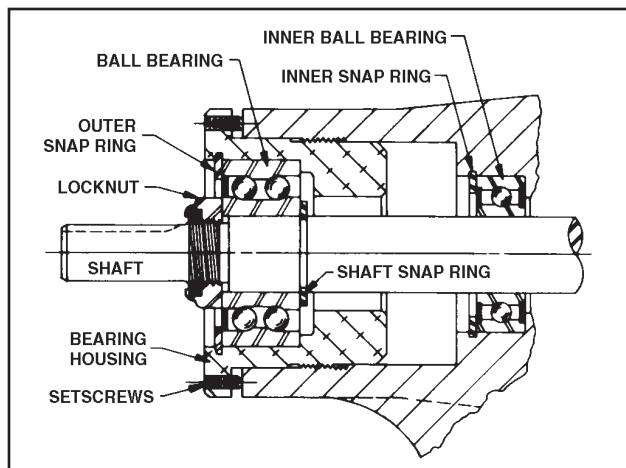
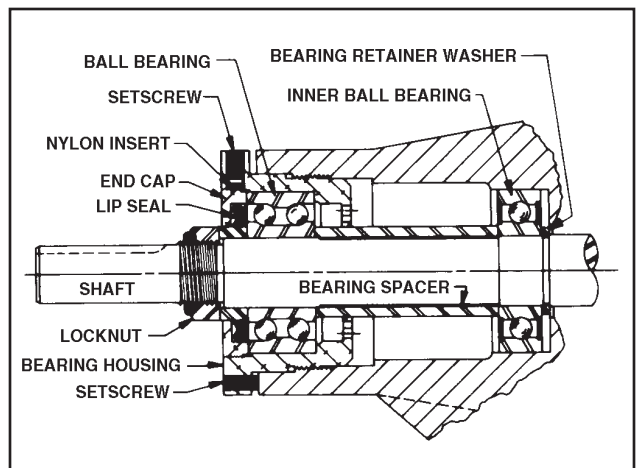

Figure 26 - Thrust-Bearing assembly (GG, HJ, HL)
Figure 27 - Thrust-Bearing assembly (AS, AK, AL)
Turn the locknut counterclockwise and remove locknut. See Figure 26 or 27.
6. Loosen two setscrews in face of bearing housing and turn thrust bearing assembly counterclockwise and remove from casing. See Figure 26 or 27.
7. **GG, HJ, HL:** Remove snap ring from shaft. See Figure 26. **AS, AK, AL:** Remove bearing spacer from shaft. See Figure 27.
10. **AS, AK, AL:** Remove bearing retainer washer. The washer may have stayed with rotor and shaft when removed or is against ball bearing. See Figure 27.
- GG, HJ, HL:** Remove outer snap ring from bearing housing and remove ball bearing. See Figure 26.
- AS, AK, AL:** Loosen two set screws in flange outside diameter. Rotate end cap and lip seal counterclockwise and remove. Remove ball bearing. See Figure 27.
12. **GG, HJ, HL:** Install shaft snap ring in groove in the shaft. See Figure 26.
AS, AK, AL: Install bearing spacer over shaft and against single row ball bearing. See Figure 27.
13. Pack lubrication chamber between inner ball bearing and double-row ball bearing in the thrust-bearing assembly approximately one-half full of multipurpose grease, NLGI #2. The thrust-bearing assembly will take the remaining space. See Figure 26 and 27.
GG, HJ, HL: Install ball bearing into bearing housing with shield side toward coupling end of shaft. See Figure 26. Install snap ring into bearing housing to retain ball bearing. This snap ring has a tapered edge to fit tapered groove in bearing housing. The tapered edge is located away from ball bearing.
AS, AK, AL: Install ball bearing into bearing housing. Install lip seal in bearing housing end cap. The lip should face towards end of shaft. Put bearing spacer collar in lip seal and install in bearing housing and tighten setscrews securely. See Figure 27.
See Figures 26 and 27.